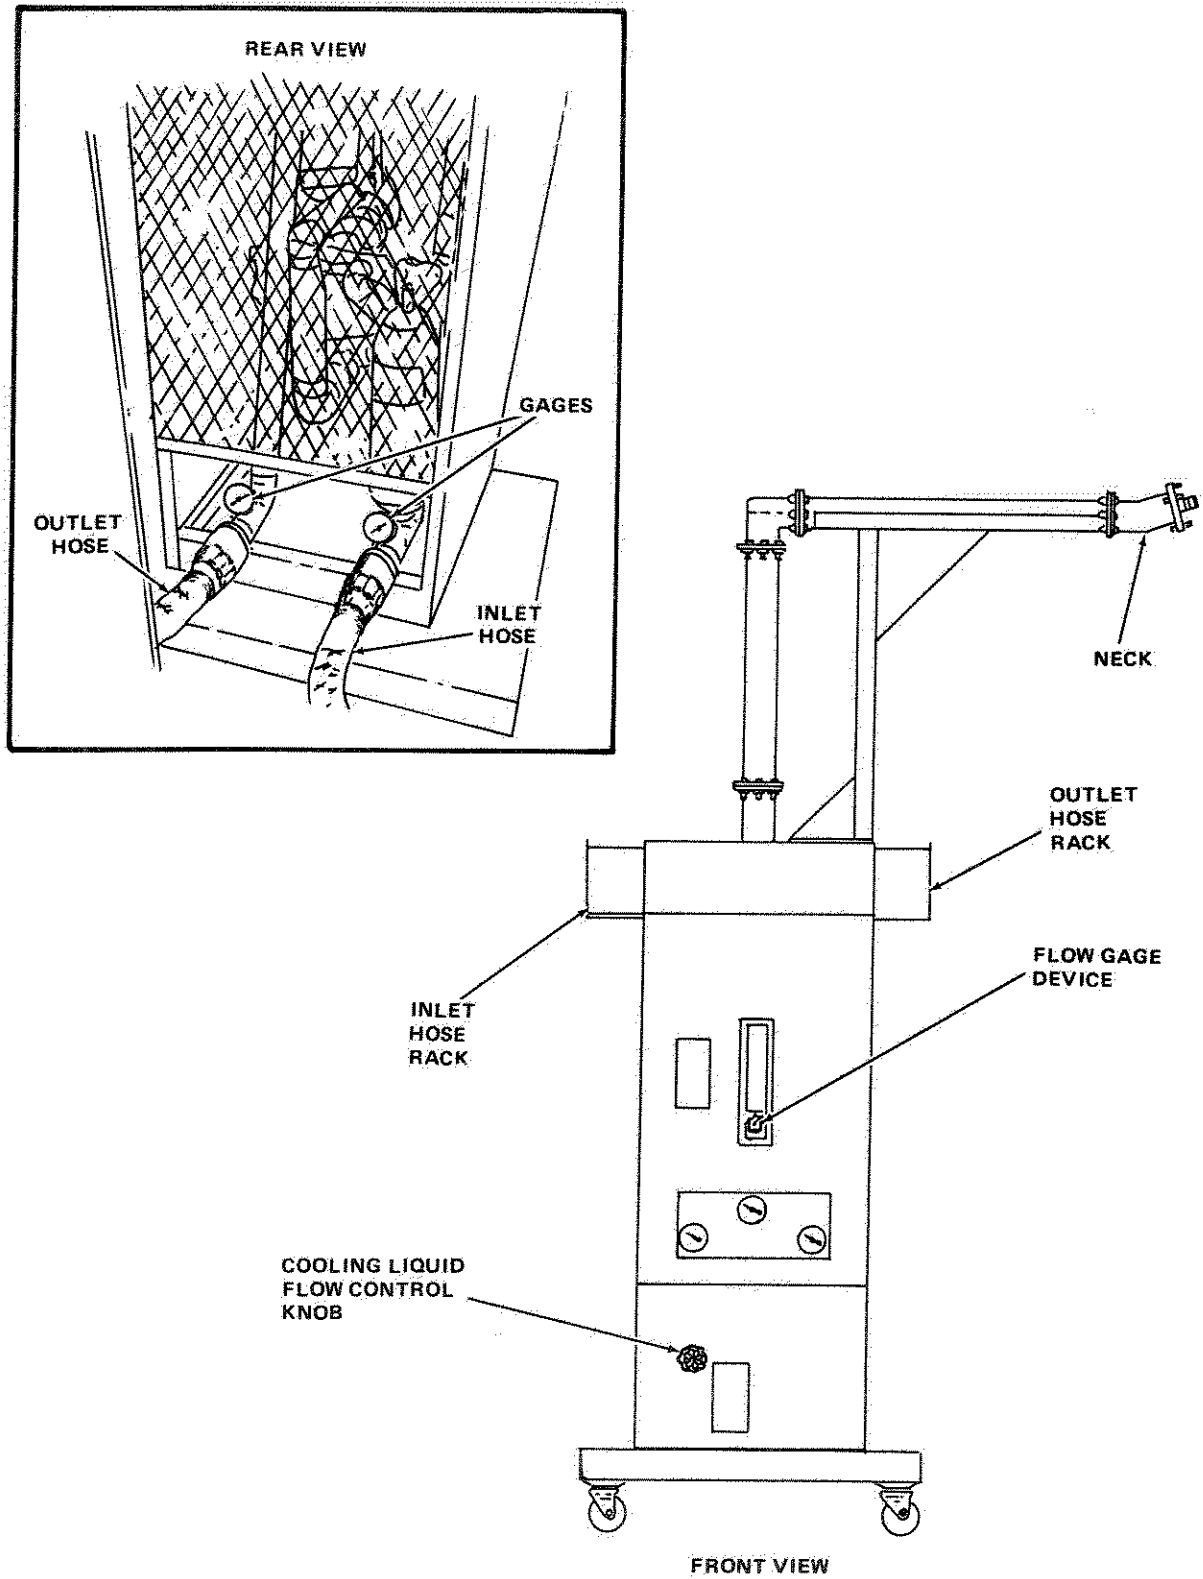

Figure 4-15. Dummy Load
4-6.4.1 Dummy Load Installation. To install water-cooled dummy load, refer to Figure 4-15 and perform following.
4. Connect interlock cable from dummy load to TEST LOAD INTERLOCK jack on RF SIGNAL MONITORS panel. (Figure 4-15. Dummy Load, Part No. 126103)
5. Remove inlet water hose from dummy load rack (Figure 4-15). Connect hose to RPIE inlet water supply. Repeat for outlet water hose.
One person performs next step while second person monitors flow gage device at front of dummy load (Figure 4-15).
4-6.4.2 Dummy Load Removal. To remove water-cooled dummy load, refer to Figure 4-15 and perform the following:
4-6.4.3 Dummy Load Repositioning. This paragraph covers moving of dummy load when maintenance requires selection of more than one frequency band. Refer to Figure 4-15 and perform the following.